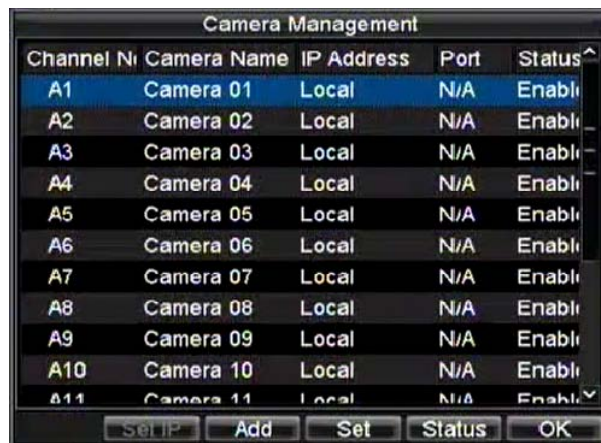

Figure 15. Camera Management Menu
1. Enter Camera Management/Settings menu (Figure 15) by clicking Menu > Setting > Camera.